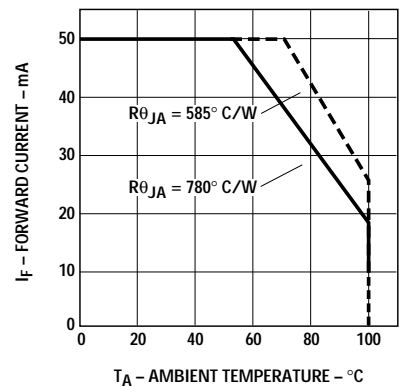

Figure 4. Maximum Forward Current vs. Ambient Temperature. Derating Based on T_{JMAX} = 130°C.
1. Derate linearly as shown in Figure 4.